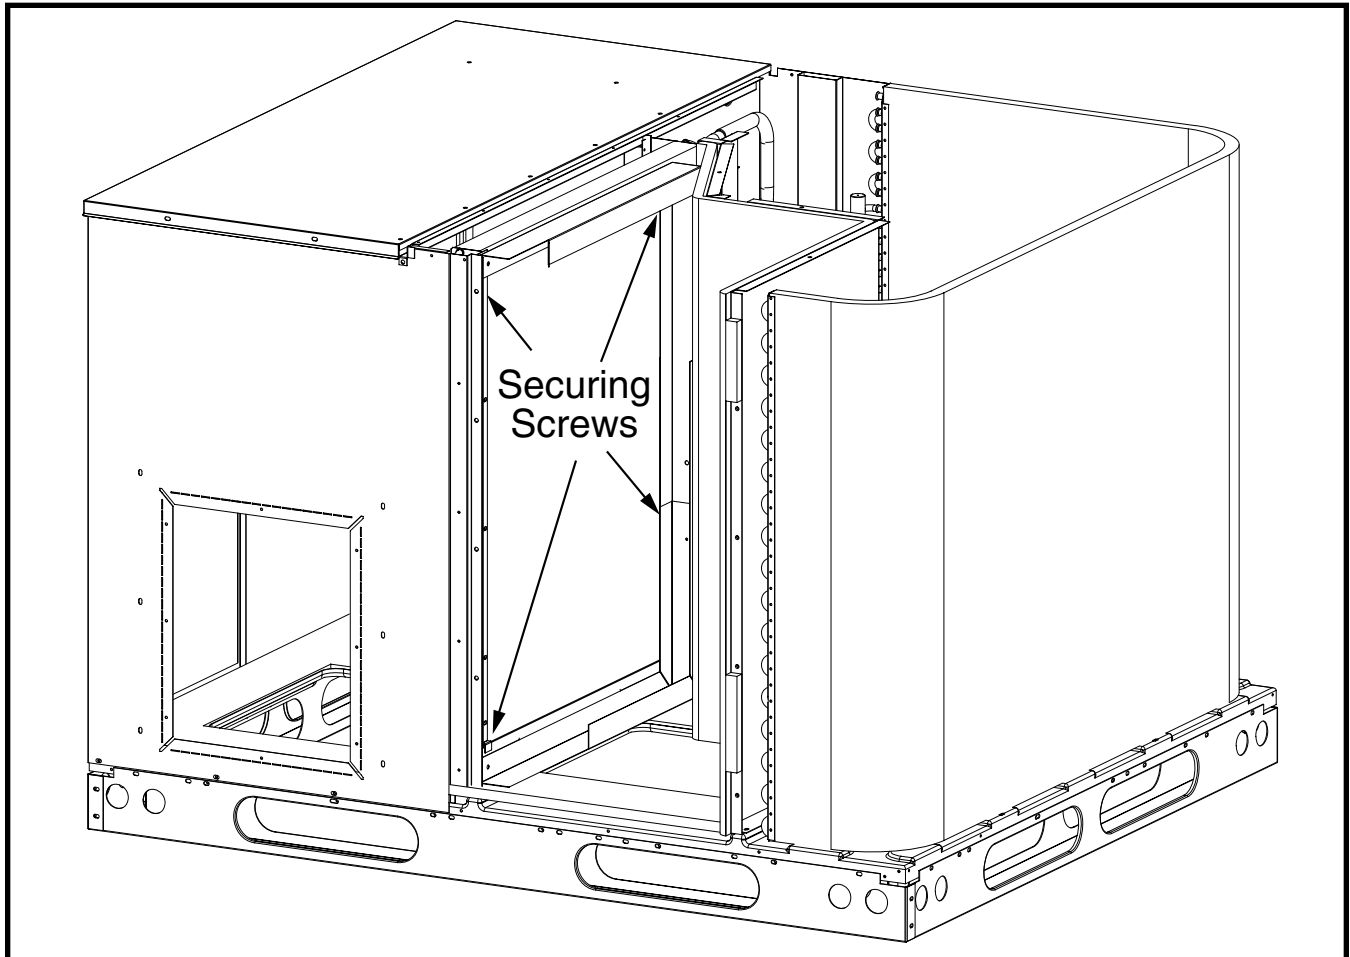

Figure 1. Internal Filter Rack Location
5. Attach the filter rack to the unit using the the holes as shown in Figure 1.
3. Remove 4 screws securing the assembly to the coil located on the left leg of the rack. **NOTE:** The assembly can now be easily collapsed and removed from the unit. The bracket secured to the top rear of the coil can remain in place. See Figure 1 (page 3) for filter rack securing screw locations.
Factory installed internal filter rack (3 phase models only) is set up to accept 1" filters. If conversion to 2" filters is desired, remove the two (or three) 1" filter adaptors secured in the assembly with clips by pulling straight off the frame. The filter bracket must be reoriented to accept 2" filters by removing two screws securing it to the hinge and rotating 180 degrees. See Figure 1 (page 3).